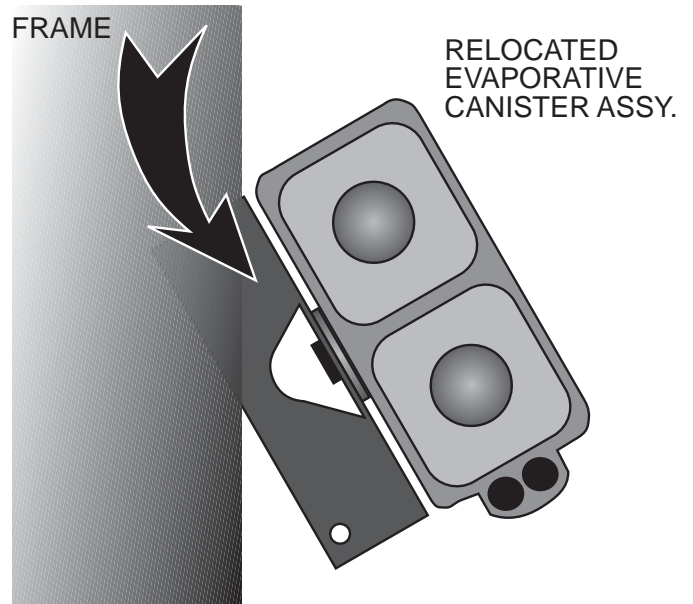

Fig. 1.0-a
- L. Relocate the evaporative canister forward (*at a slight angle*) by using only the front bolt in the bracket's rear hole. (See Fig. 1.0-a.)